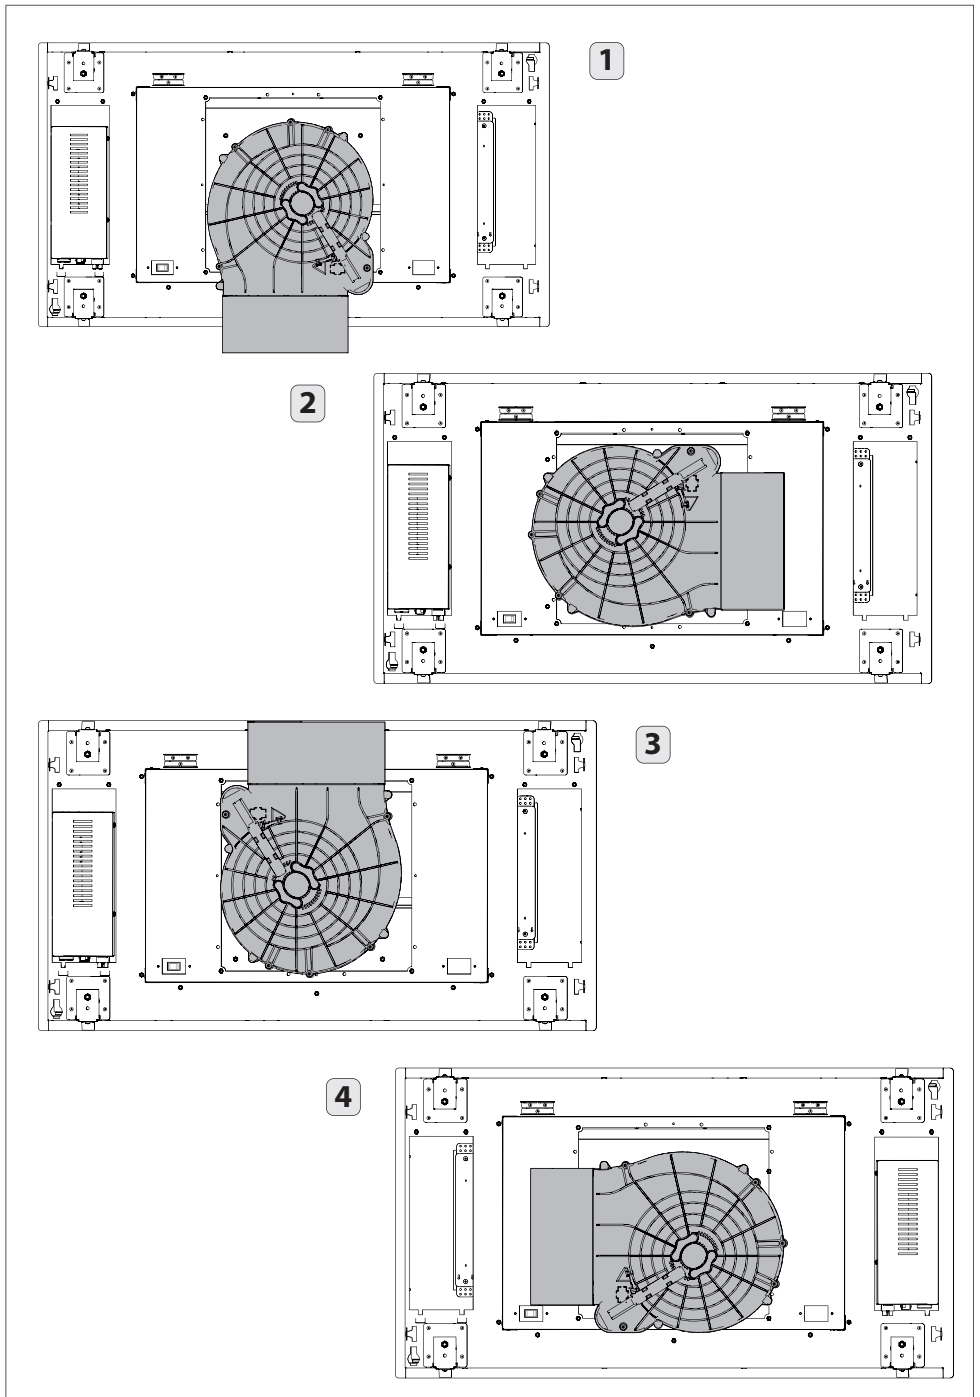

Fig.4
- Determine the direction of the air outlet hole (fig.4) to prepare the electrical connection and air exhaust.
If you want to turn the motor on the side where the electronic box is located (Fig.4 – step 4), move the electronic box and the switch to the opposite side.